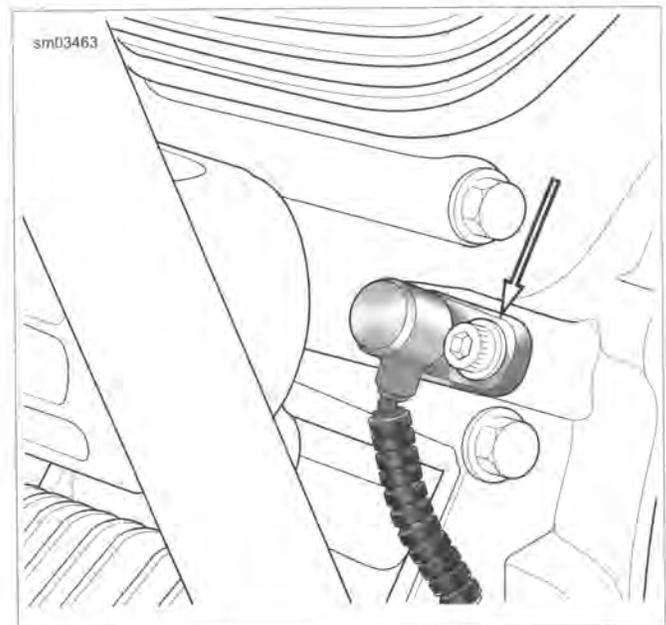
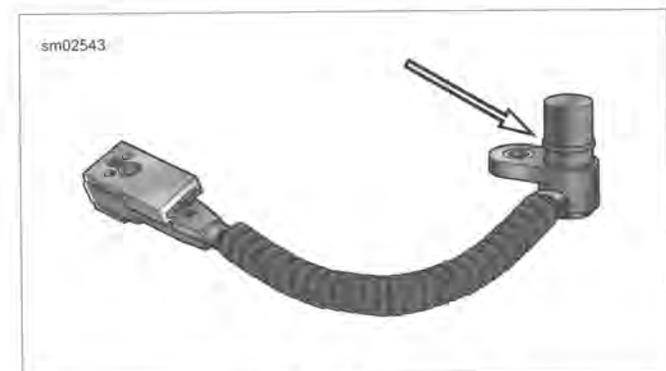

Figure 7-53. Remove CKP Sensor Mount Screw
Figure 7-54. CKP Sensor O-Ring
4. See Figure 7-53 and Figure 7-54. Remove screw to free CKP sensor. Pull sensor from bore.
2. See Figure 7-53. Secure sensor with screw. Tighten to 100-120 **in-lbs** (11.3-13.6 Nm).